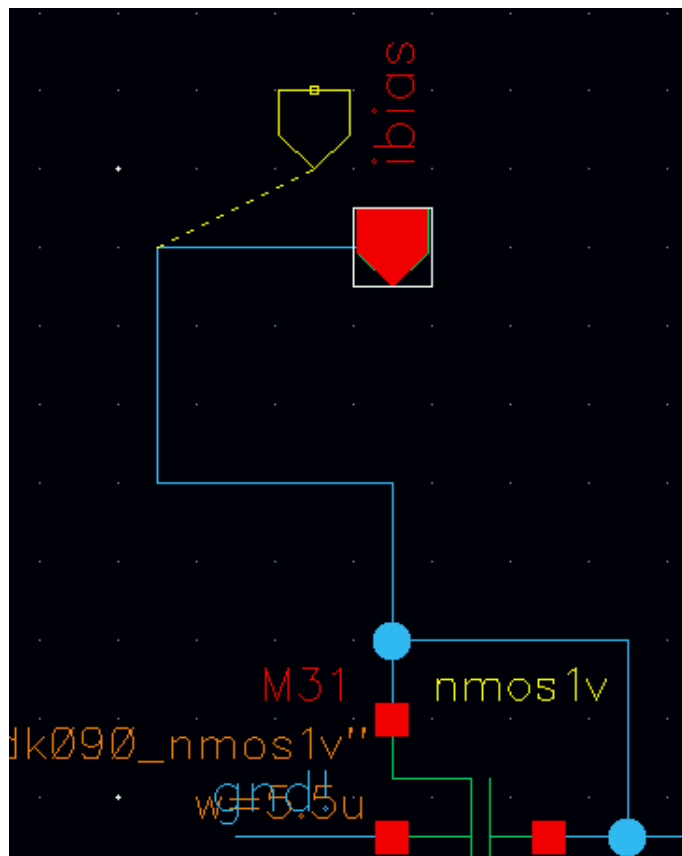

Figure 7-3 Pin option unchecked so only the wire segment directly connected to the pin will be rerouted
- When the *pin* option is **not checked**, *only* the wire segment that is directly connected to the selected pin will be rerouted (as shown in Figure 7-3 on page 475).